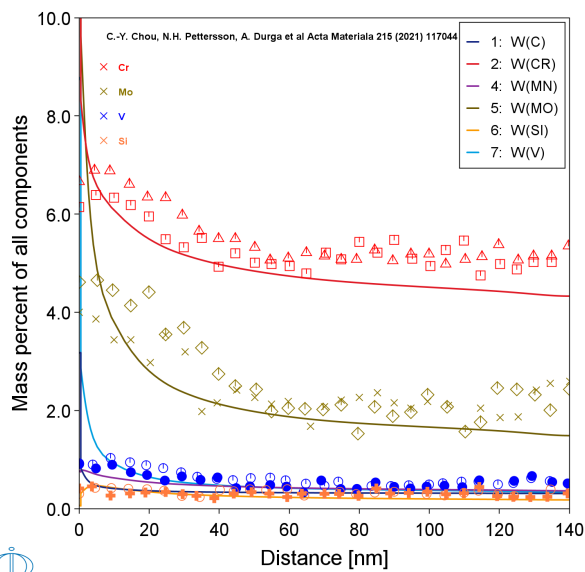

Figure 84: The simulated segregation profile with overlaid experimental STEM-EDS line scans from C.-Y. Chou et al. [2021Cho].
The calculated segregation profiles are finally compared with the STEM-EDS line scans as shown in Figure 84.
- **Plot results:** After completing the set up and performing the calculation, to view the matching name of the node on tab(s) in the **Visualizations** window, click a **Plot Renderer** node in the **Project** window or click the tabs individually in the **Visualizations** window. See Figure 84.